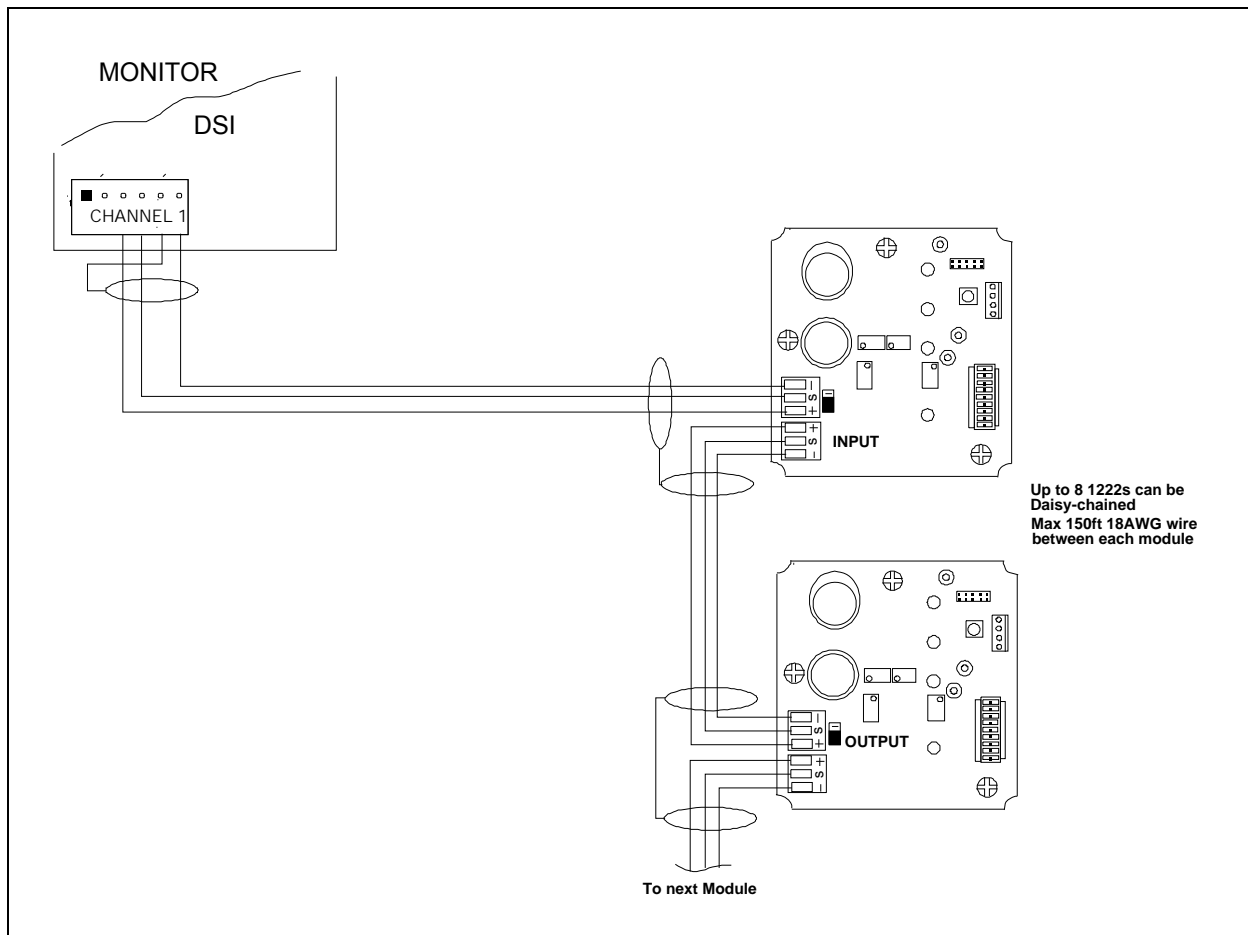
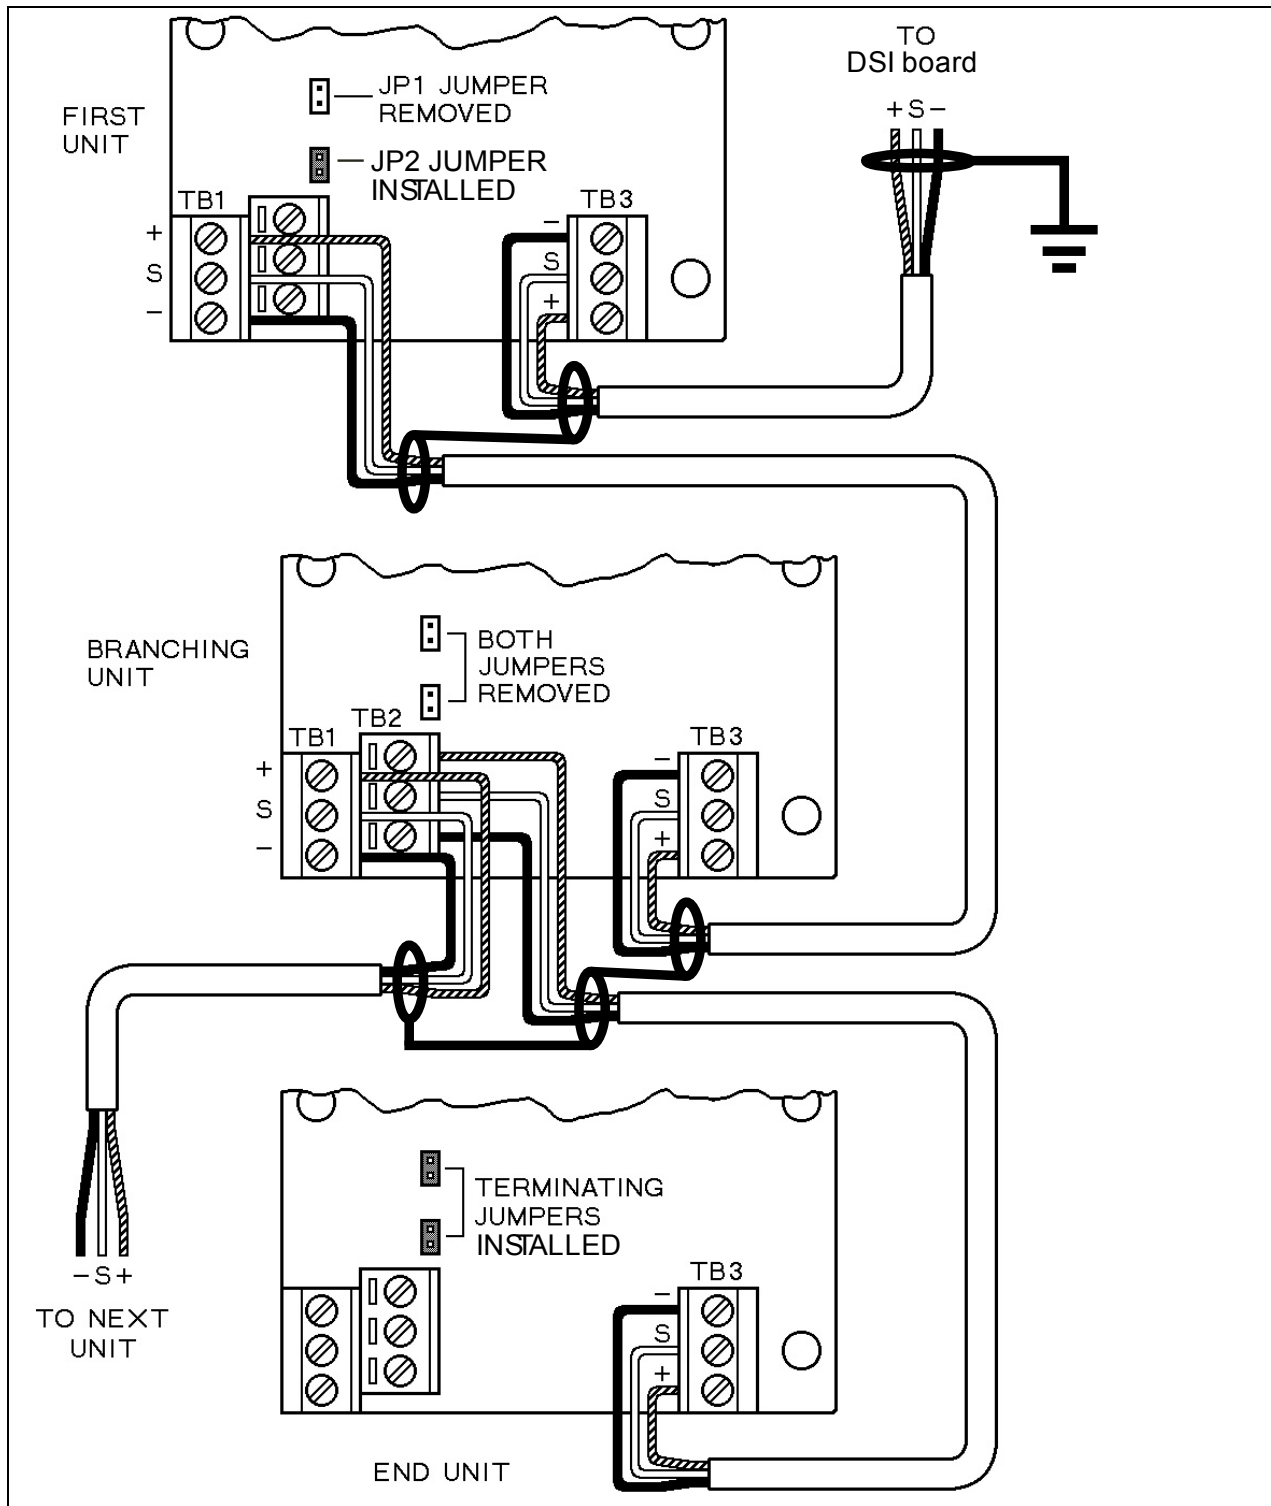

Figure 8-1: 1222 Sensor Module Wiring
Figure 8-4: 1225 Sensor Module Wiring and Termination
- Cable shielding must be grounded at the monitor end only. For Sensor modules ensure grounding continuity by tying grounding shields together see Figure 8-1. The cable shield at the end of a cable where the grounding is not propagated or tied to a landing point must be clipped short and wrapped with electrical tape to avoid electrical contact with any components in the housing.
- If you have connected 122X Sensor Modules to the monitor and are experiencing a fault you will need to check the inputs and output wiring and either the end of line termination jumpers or dipswitch settings. See Figure 8-1 to Figure 8-4.